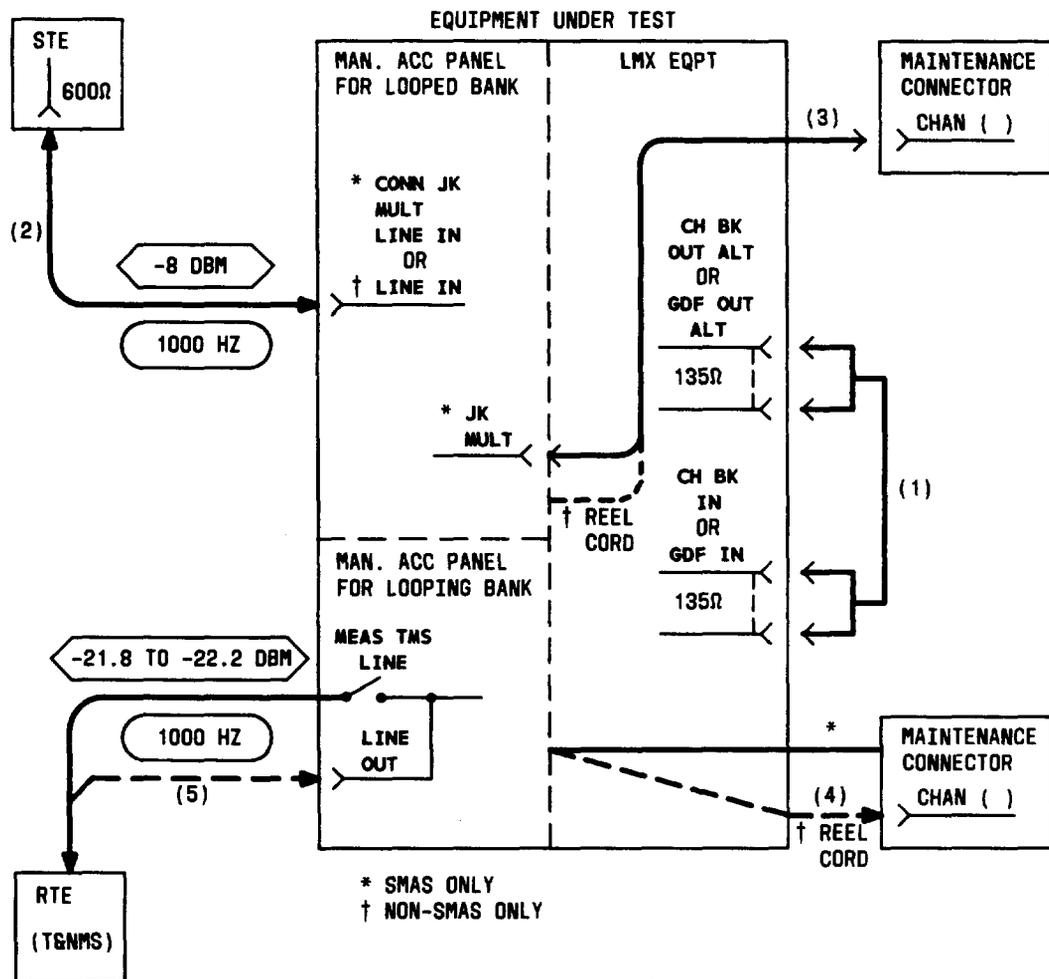

Fig. 22—Patching Diagram—Crosstalk Test—Unequal-Level Looping—Channel Gain Verification (1000 Hz)
3	At the LMX equipment, connect the CH BK OUT ALT (LMX-2) or GDF OUT ALT (LMX-3) jack of the looped bank to the CH BK IN (LMX-2) or GDF IN (LMX-3) jack of the looping bank [patch (1), Fig. 22].
5a*	Connect the STE to the looped -bank CONN JK MULT LINE IN jack (on the 22AR or AT MAP) [patch (2), Fig. 22].
5b†	On an adjacent non-SMAS J98626() frame, connect the STE to the looped -bank LINE IN jack (on the 22AU MAP) [patch (2), Fig. 22].
6a*	Connect the JK MULT connector (on the 22AR or AT MAP) to the CHAN BANK connector (on the maintenance connector) for Channel 1 of the looped channel bank under test [Test A, Table I, and patch (3), Fig. 22]
6b†	On the adjacent non-SMAS J98626() frame, connect the retractable cord (on the 22AU MAP) to the CHAN BANK connector (on the maintenance connector on the frame under test) for Channel 1 of the looped channel bank under test [Test A, Table I, and patch (3), Fig. 22].
- 7b† Connect the retractable cord (on the 22AU MAP) to the CHAN BANK connector for the Channel 1 position for the *looping* bank [Test A, Table I, and patch (4), Fig. 22].
Note: If the T&NMS is not available via the MEAS TMS LINE switch, connect the RTE to the LINE OUT jack [patch (5), Fig. 22].
- 11 Remove patch (3), Fig. 22 [and patch (4), if used] from the maintenance connector(s).